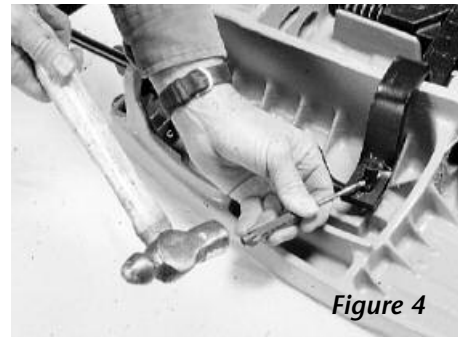

Figure 4
4. Remove the cotter pin from the lever bar pin and remove the lever bar pin (Figure 4).
- Install the lever bar pin and cotter pin (Figure 4).